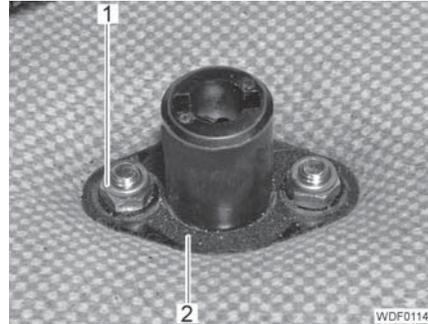

Fig. 429 Battery disconnect switch attachment
- Undo the 2 nuts (Fig. 429,1) and unscrew the 2 screws on the underside.
- Remove the metal plate (Fig. 429,2).
- Position the metal plate (Fig. 429,2).
- Attach 1 nut with washer (Fig. 429,1) to each of the 2 screws and tighten.